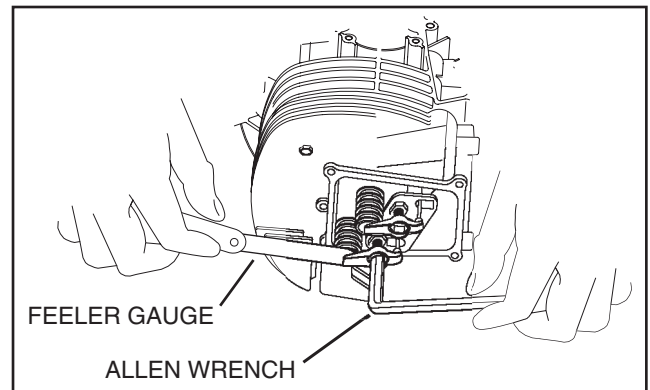

Figure 7-39 – Adjusting Valve Clearance
1. Loosen the rocker arm jam nut. Use a 10mm allen wrench to turn the pivot ball stud while checking the clearance between the rocker arm and valve stem with a feeler gauge (see Figure 7-39).